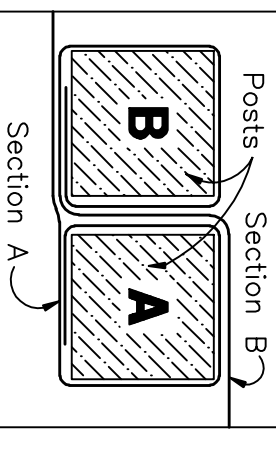

Figure 1:
*Rotate each post until the geotextile is wrapped completely around the post, then about the end post to create a tight seal as shown in Figure 1.